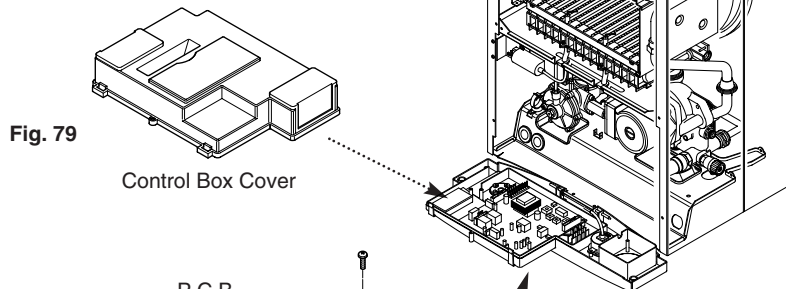

Fig. 79
2. Remove the screws securing the control box cover and release the cover retaining bars from their slots. Disengage the rear of the cover from the control box hinge pin (Fig. 79).